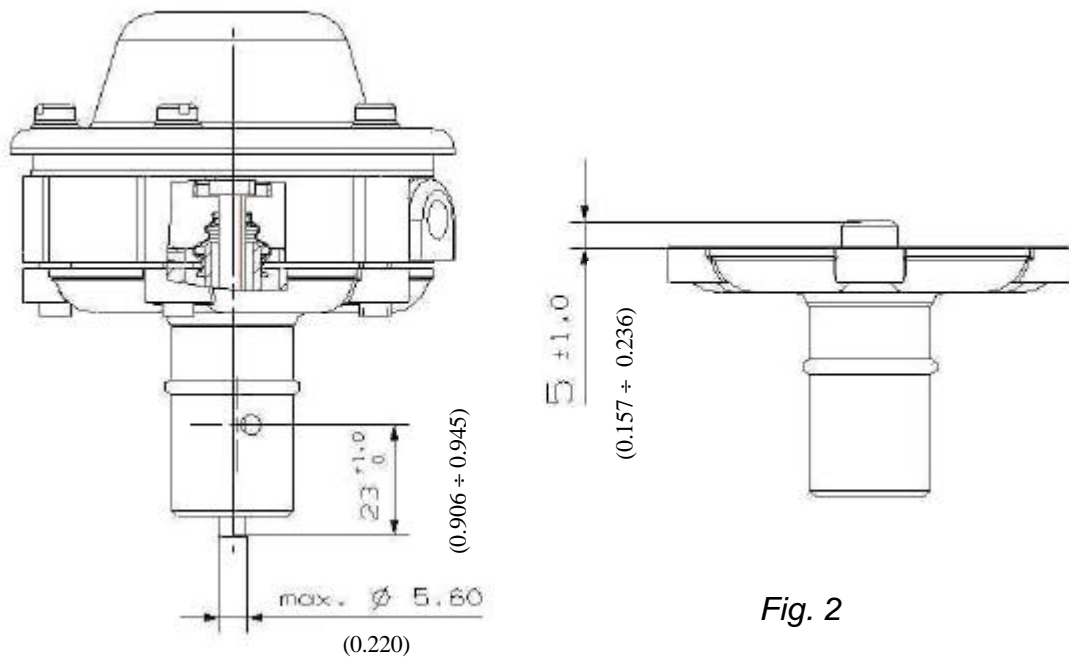

Fig. 2
2. Measure the distance between the lifter and the axis of the pump casing bolt hole (26.21.0157). This distance shall be  $23^{+1}$ mm (0,905-0,945 in) /Fig. 2/. If this dimension is higher, the lifter shall be ground to obtain the dimension from 23 mm (0,905 in) to 24 mm (0.945).
4. Check the height of the seating element of the rubber bellow /see Fig. 2/. This element shall be  $5^{\pm 1}$  (0,157 – 0,236 in). Correct it by milling or filing if necessary.
6. Measure the lifter thickness. It shall be  $5.35 \pm 0.05$  mm (0,209 ÷ 0,213) of dia. in the area of contacting with the bellow (26.11.0402) at “L” distance /see Fig. 3./ and max. of 5.60 mm (0,22) of dia. in remaining areas /Fig. 2/. Grind the lifter or replace with a new one if necessary.